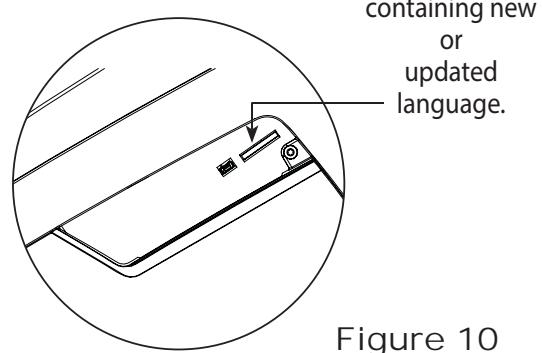

Figure 10
3. Insert the SD card containing the language data into the side panel on the machine. See Figure 10.